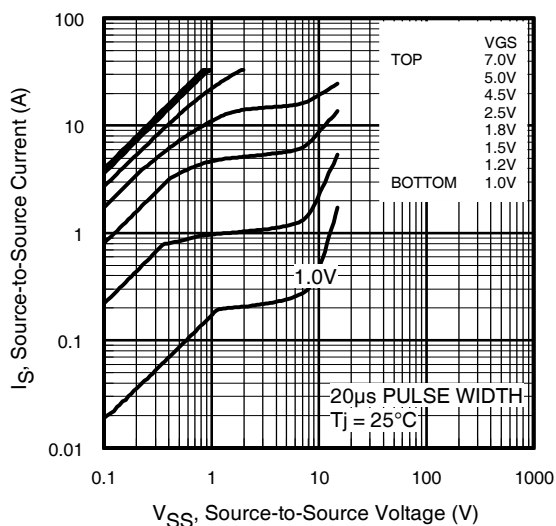

Fig 1. Typical Output Characteristics. ④
- ① Repetitive rating; pulse width limited by max. junction temperature.
- ② Pulse width $\leq 400\mu s$; duty cycle $\leq 2\%$. Gate voltage applied to both gates.
- ③ When mounted on 1 inch square 2oz copper on FR-4.
- ④ Figures 1, 2 and 3: One Fet is biased with $V_{GS} = 9.0V$ and curves show response of the second FET.